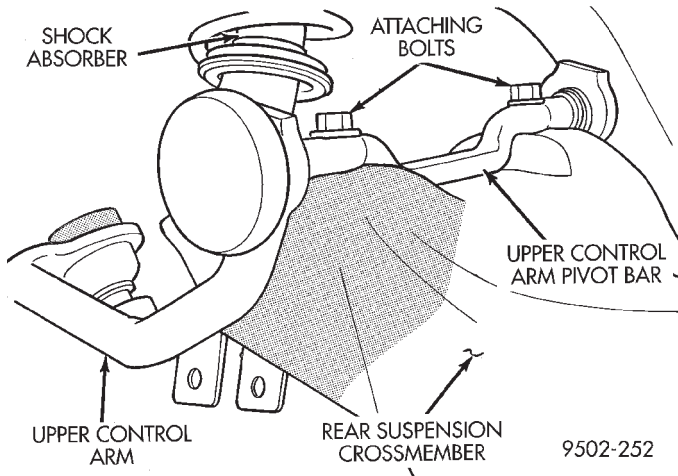
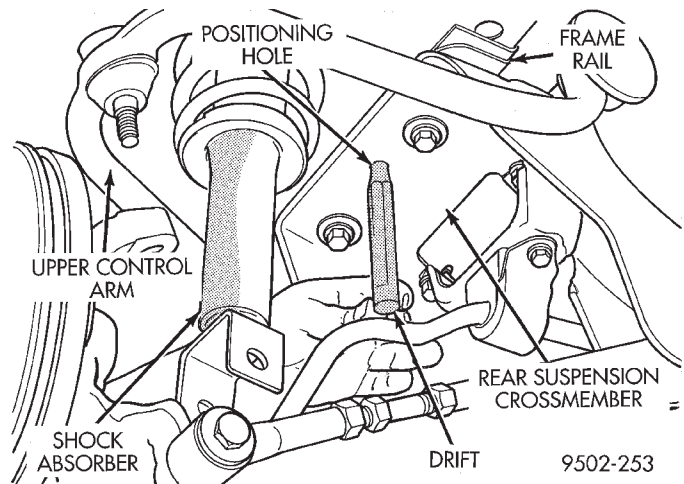

Fig. 40 Upper Control Arm Attachment To Crossmember
Fig. 41 Locating Rear Suspension Crossmember In Vehicle
(10) Lower the rear suspension crossmember enough to access the upper control arm pivot bar to crossmember attaching bolts (Fig. 40).
(11) Remove the 4 bolts (Fig. 40) attaching the upper control arm pivot bars to the rear suspension crossmember. Remove the control arms from the crossmember.
(3) Align the upper control arm pivot bars with the mounting holes in the rear suspension crossmember. Install the pivot bar attaching bolts and washers. Tighten the 4 pivot bar to crossmember attaching bolts (Fig. 40) to a torque of 107 N·m (80 ft. lbs.).
(4) Using transmission jack, raise rear suspension crossmember up to the rear frame rails and loosely install the 4 attaching bolts.
(5) Position a drift of the appropriate size into the positioning hole in each side of rear suspension crossmember and locating holes in the frame rail of the body. (Fig. 41). This is required to properly position the rear suspension crossmember side-to-side and front-to-rear on the body of the vehicle. Then tighten the 4 crossmember to frame rail attaching bolts to 107 N·m (80 ft. lbs.). Remove drifts from rear suspension crossmember.